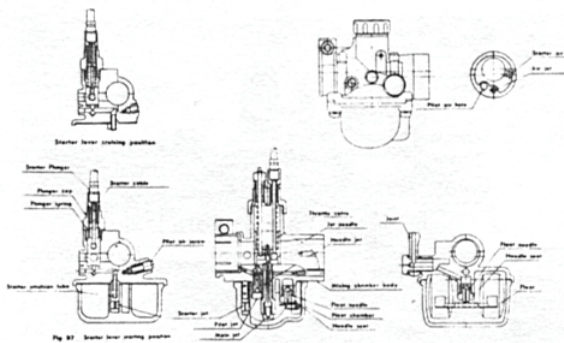

Fig. 30
A. Design and Operation (all models) (Figure 30)